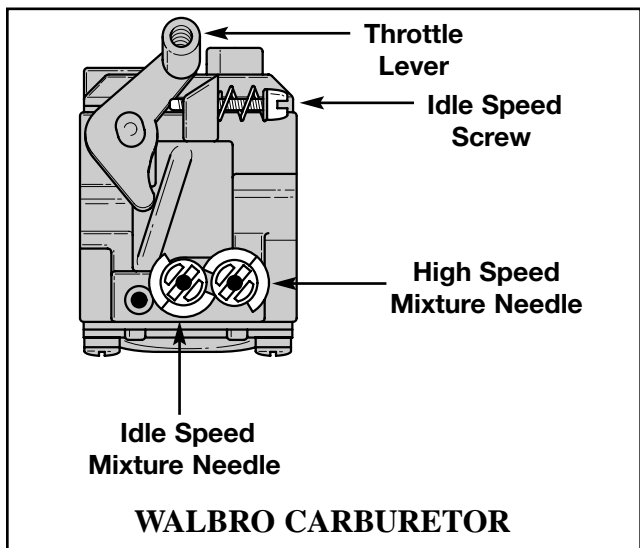

Fig. 30
- b) For **Walbro** carburetors: Back the idle speed screw (Fig. 30 - page 14) **out (counterclockwise) until it does not contact** the carburetor throttle lever. Then turn the screw **in (clockwise)** until it just *begins to move* the throttle lever; then continue turning **2 full turns.**
5. Release the throttle trigger and let the engine idle. If the engine stops, turn the idle speed screw (Figs. 30 and 31) **in (clockwise) 1/8 turn** at a time (as required) until the engine idles.
- a. Turn the idle speed mixture needle (Figs. 30 and 31) **in (clockwise)** until you hear the fastest idle; then turn the needle **out (counterclockwise) 1/8 turn**.
- b. Squeeze the throttle trigger. If the engine falters or hesitates as it accelerates, turn the idle speed mixture needle (Figs. 30 and 31) **out (counterclockwise) 1/16 turn** at a time until the engine accelerates rapidly.